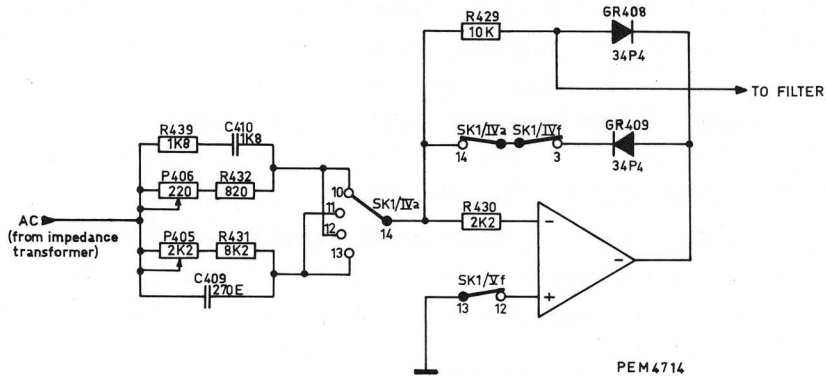

Fig. 13. Operational amplifier and rectifier circuit
9. Operational amplifier and rectifier circuit (Fig. 13)